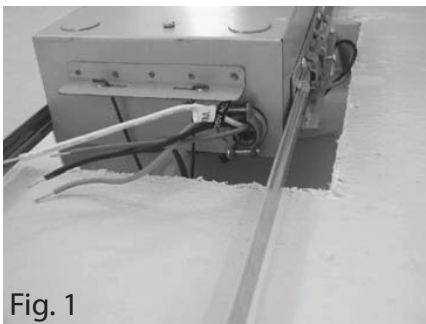

Fig. 1
5. Remove the necessary knockout for routing wires. Fig. 1